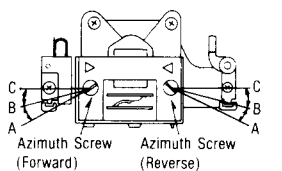
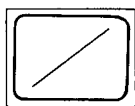

Fig. 7
Fig. 9-1
9. In the forward playback mode, playback the 8kHz signal from the test tape (QZZCFM). Adjust the azimuth screw (Forward) shown in fig. 7 for maximum output L-CH and R-CH levels. When the output levels of L-CH and R-CH are not at maximum at the same point adjust as follows.
10. Turn the azimuth screw (Forward) shown in fig. 7 to find angles A and C (points where peak output levels for left and right channels are obtained). Then, locate angle B between angles A and C, i.e., point where L-CH and R-CH outputs are balanced. (Refer to figs. 7 and 8.)
13. In the forward playback mode, playback the 8kHz signal from the test tape (QZZCFM). Adjust the azimuth screw (Forward) shown in fig. 7 so that pointers of the two VTVMs swing to maximum and a lissajous waveform as illustrated in fig. 9-1 is obtained on the oscilloscope.